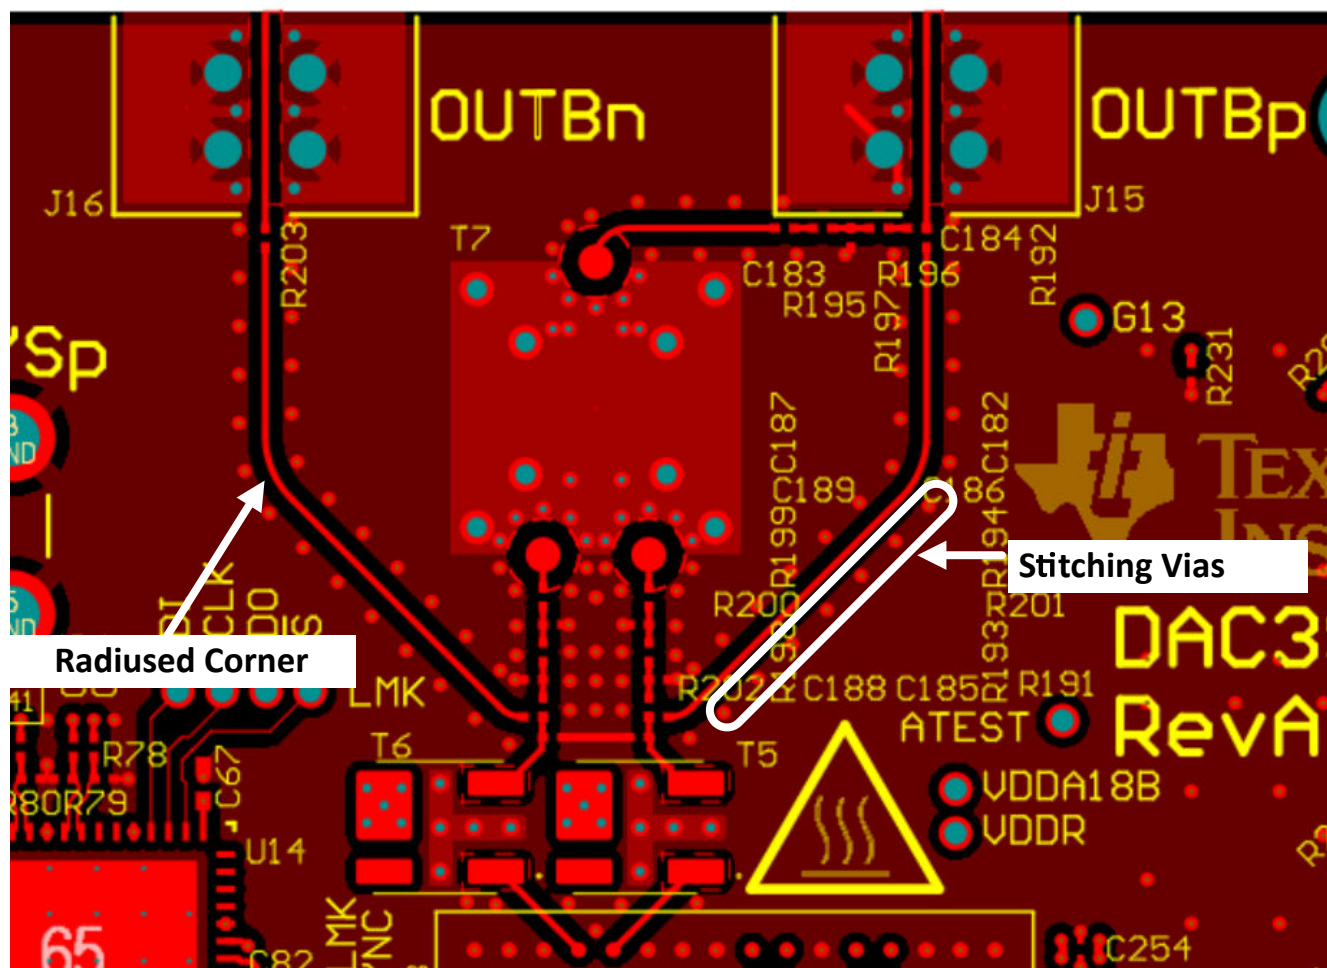

図 8-24. Radius Corner and Stitch Vias next to High_Speed Signal Trace
7. Provide symmetrically located ground tie stitching vias adjacent to any high-speed signal at an appropriate spacing as determined by the maximum frequency the trace transports ($\lambda/4$). See 図 8-24 as an example.